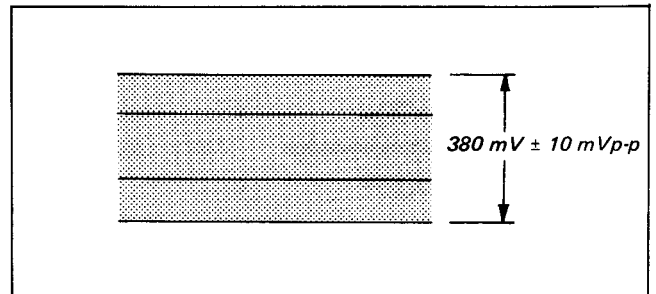

Fig. 5-24. Y record current adjustment
- i) Adjust to $380 \text{ mV} \pm 10 \text{ mVp-p}$ with RV1. (See Fig. 5-24)